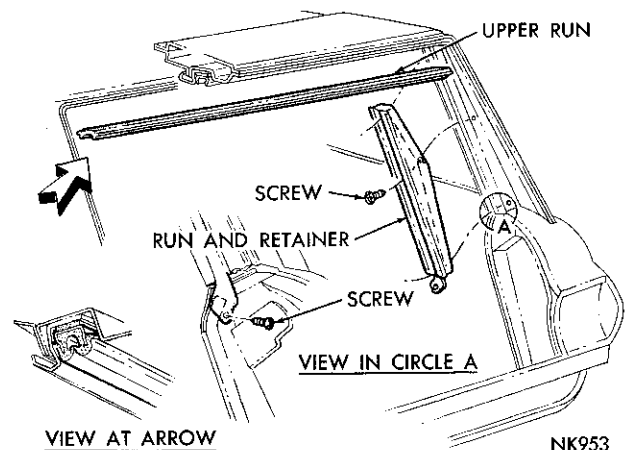

Fig. 118—Tail Gate Glass Upper Run and Pillar Run
(1) Remove the upper run from the run retainer (a press fit in the retainer) (Fig. 118).
(2) Remove the screw attaching the pillar run to the upper end of the tail gate lower opening weatherstrip.
(3) Remove the three screws attaching the pillar run and retainer to the pillar and remove the run and retainer assembly.